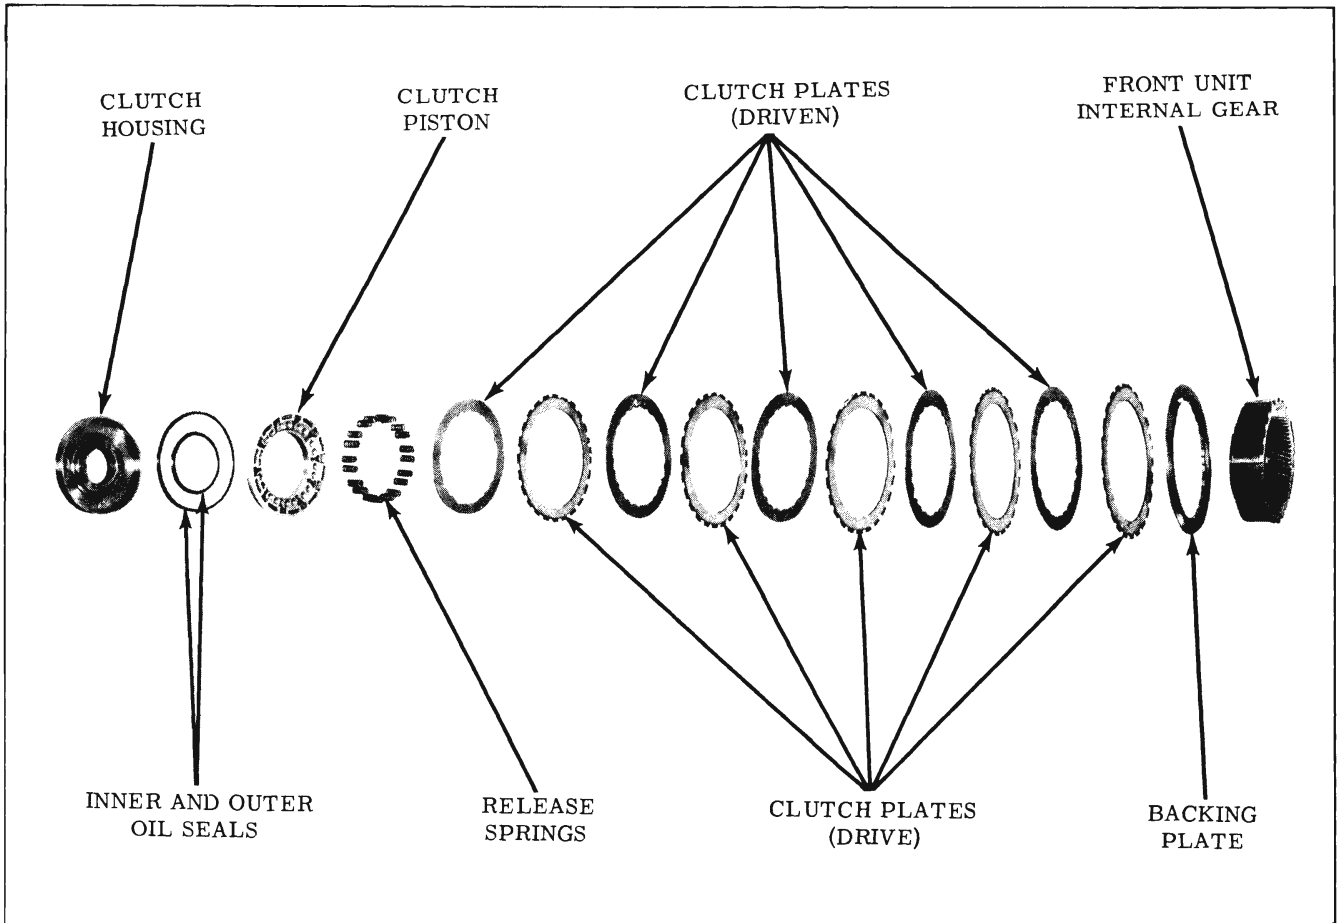

Fig. 3-259 Front Unit Clutch Assembly
4. Remove front unit internal gear, backing plate, and discs. (Fig. 3-259)